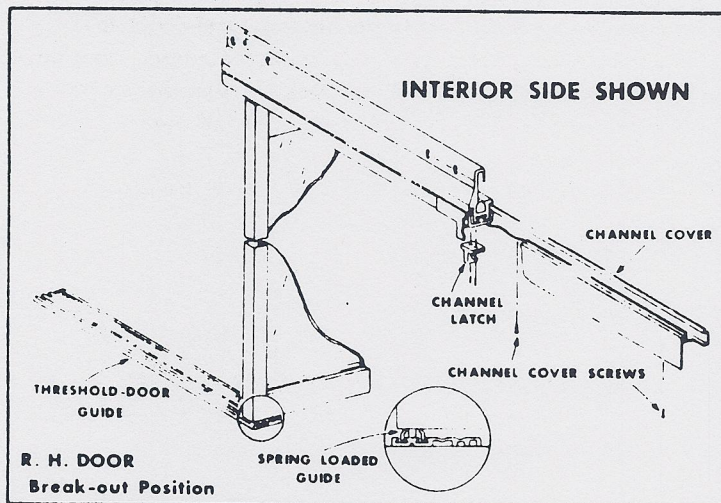

FIGURE 12
- F. Break-Out door and remove channel latch and channel screws. See Fig. 12.
- G. Slide channel cover forward. See Fig. 12.
- B. Break-Out active door and remove channel latch and channel cover screws. See Fig. 12
- C. Slide channel cover forward and out of hanger assembly. See Fig. 12